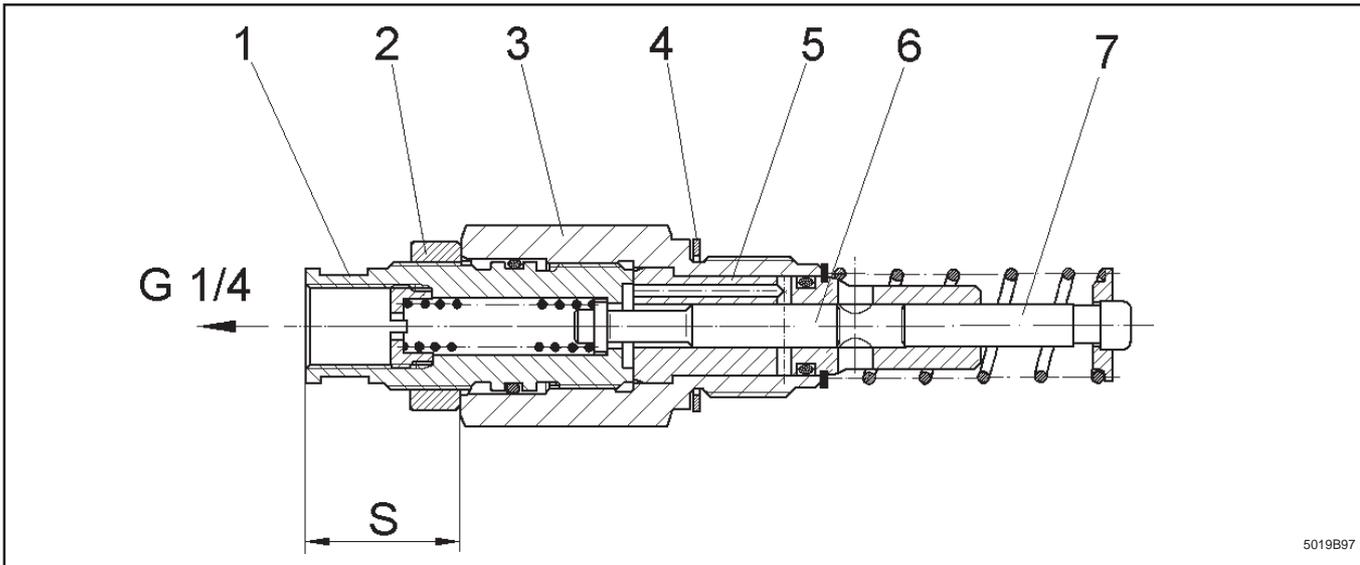
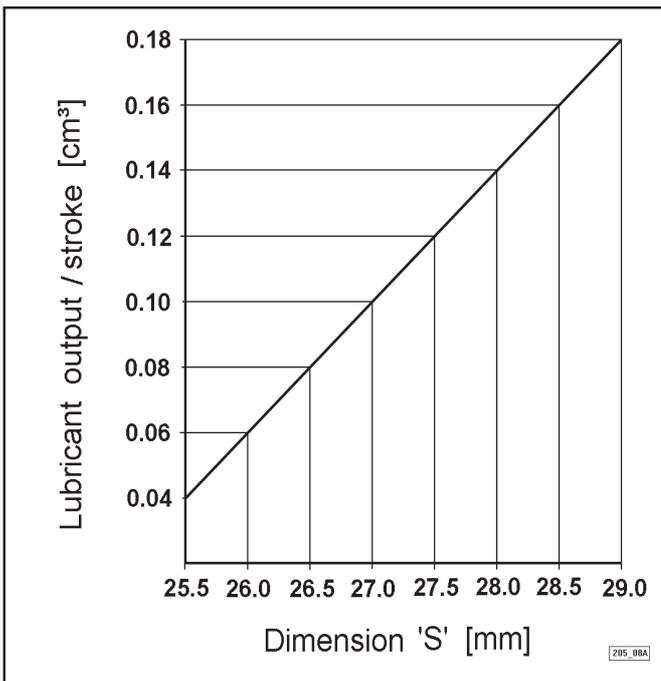

Fig. 4 - Sectional view: adjustable pump element
Fig. 5 - delivery diagram
- * Loosen counter nut (2, Fig.4) while holding in position pump element body (3) by means of a second wrench.
- * Change the position of the adjusting spindle (1) by means of a wrench:
- The dimension "S" (see Fig. 4) for the desired lubricant output can be ascertained by using the delivery diagram shown in Fig. 5.
- * Unscrew the adjusting spindle (1, Fig. 4) from the pump element body (3) until „S“ is approx. 30 mm
- * Screw counter nut (2) onto stop collar of the adjusting spindle (1)
- * Screw adjusting spindle (1) with counter nut (2) into pump element body (3) until stop
- * Dimension „S“ must be adjusted to the desired value in accordance with the delivery diagram (Fig. 5).